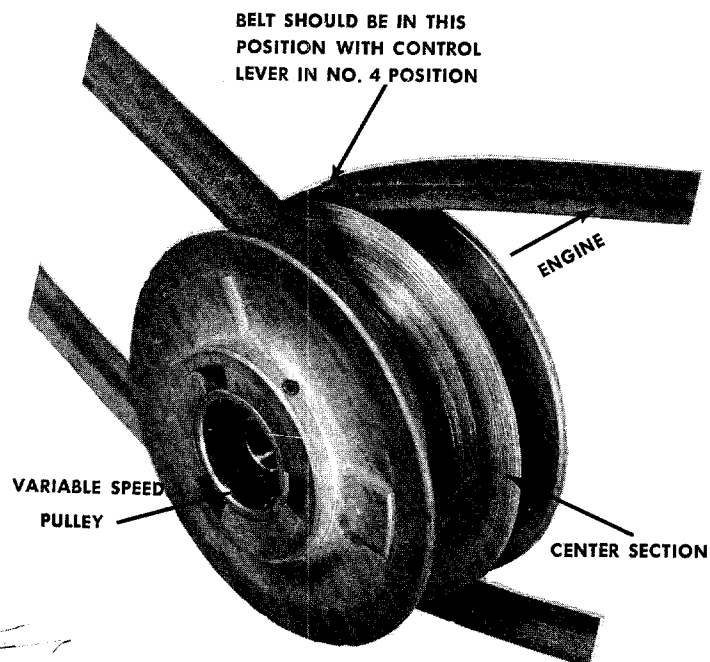

FIGURE 4-7. VARIABLE SPEED PULLEY
Start the engine and move the control lever into the number 4 position. The belt closest to the engine should move to the outside edge of the variable speed pulley so the top of the belt is almost flush with the pulley. See Figure 4-7.
- Step 5. Slide the center section of the variable-speed pulley towards the engine. See Figure 4-7.